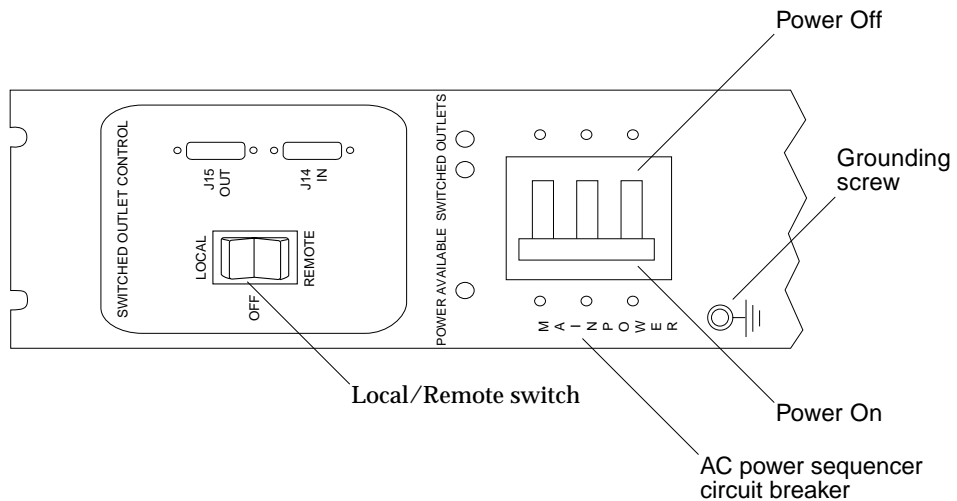

FIGURE 3-2 AC Power Sequencer Control Panel
2. Turn the AC power sequencer circuit breakers at the bottom front and bottom rear of the cabinet to Off (FIGURE 3-2).
4. Set the Local/Remote switch on the expansion cabinet to Local (FIGURE 3-2).
5. Turn the AC power sequencer circuit breakers on the expansion cabinet to On (FIGURE 3-2).
3. **At the bottom of the expansion cabinet, remove the trim panels and turn the AC power sequencer circuit breakers to Off (FIGURE 3-2).**